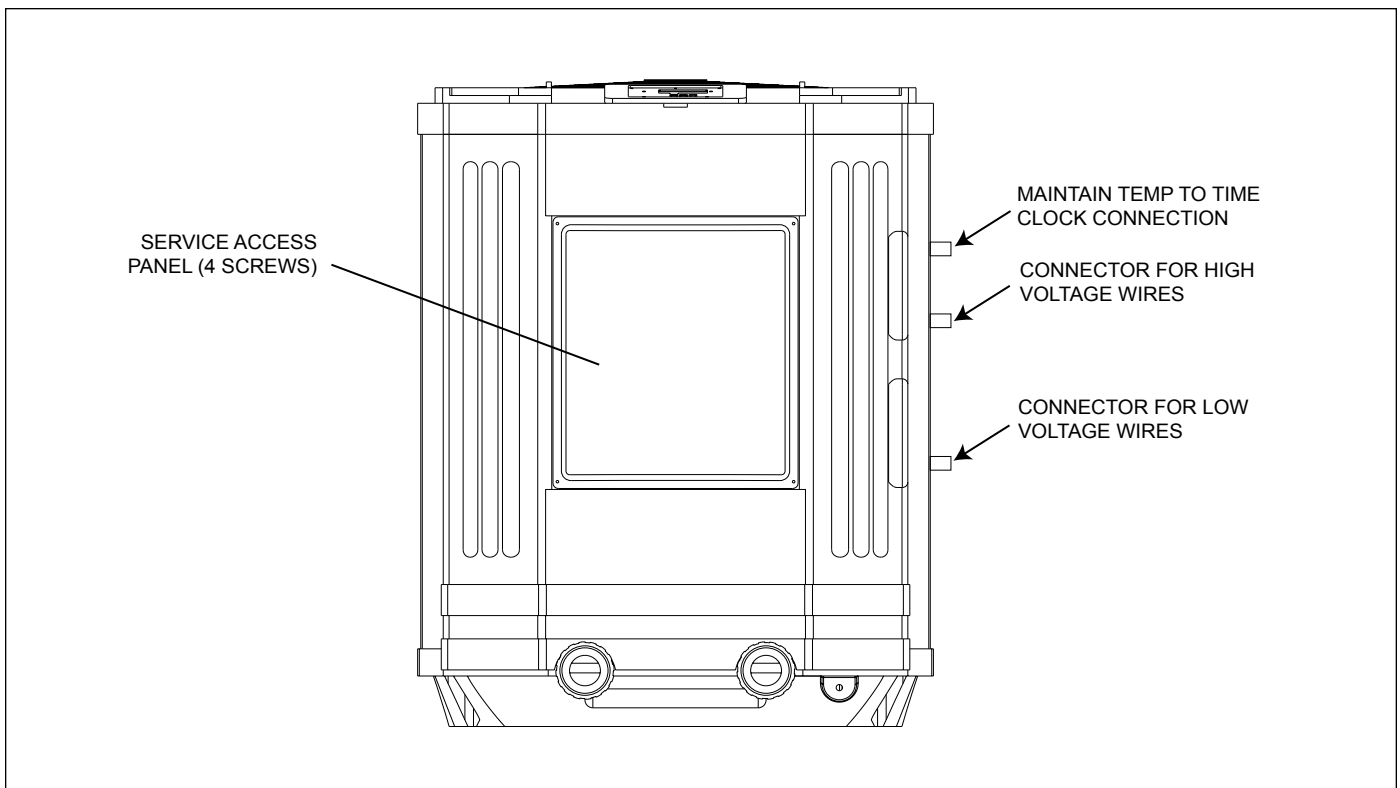

Figure 11. EE-Ti Heat Pump Front View
2. Remove the four (4) screws that attach the service/access panel to the heat pump unit (see Figure 11).
4. Electrical supply lines must be run through watertight conduit. Run the wires and conduit from the power source and connect them to the conduit connection labeled “High Voltage Connection” on the right side of the heat pump. See Figure 11 for connection location.
2. Remove the screws that attach the service/access panel to the heat pump unit and the cover to the junction box (see Figure 11).
3. Run the wires from the pool/spa control system into the conduit connection labeled “Low Voltage Connection”, located on the lower right hand side of the heat pump (see Figure 11).
2. Remove the screws that attach the service/access panel to the heat pump unit and the cover to the junction box (See Figure 11).
3. Run the wires from the pool/spa control system into the conduit connection labeled “low voltage connection”, located on the lower right hand side of the heat pump (See Figure 11).
2. Remove the four (4) screws that attach the service access panel to the heat pump and remove the cover to the junction box. See Figure 11.
3. Run four (4) 22 AWG solid copper wires into the conduit labeled “Low Voltage Connection” located on the lower right hand side of the heat pump. See Figure 11. The wires may be up to 300 feet (91.4 m) in length.